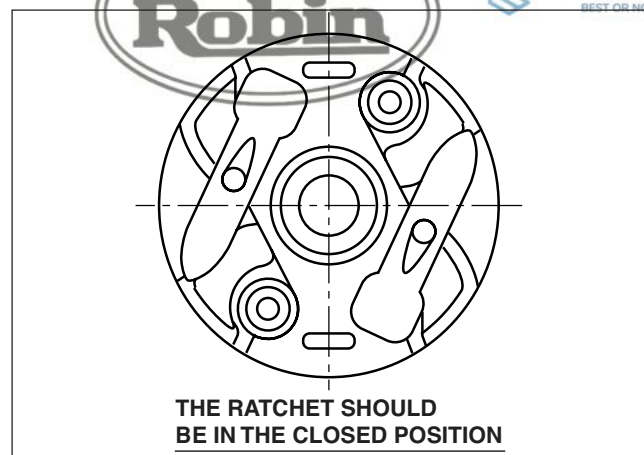

Fig. 13-5
(2) Mount the components
- 1 Mount the ratchet into the reel. (Fig. 13-5)